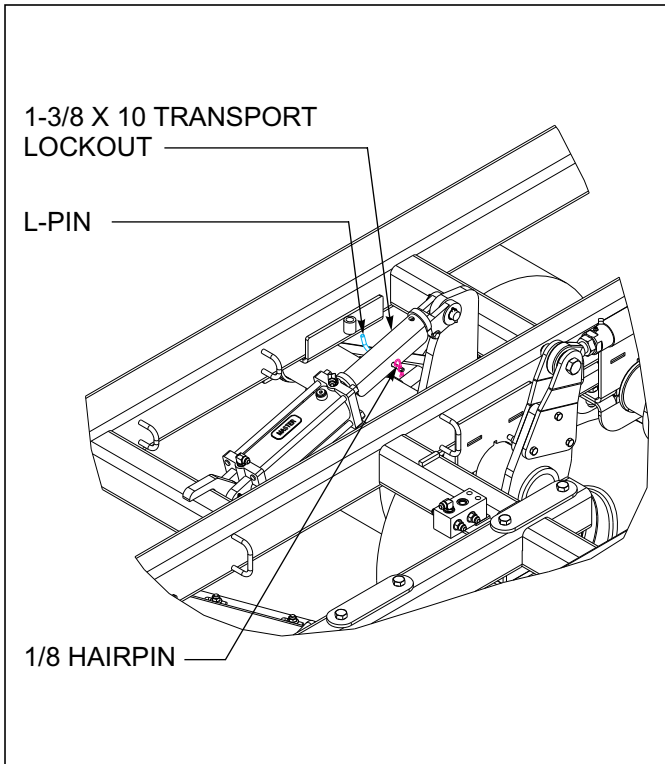

Figure 4-18: Installed Transport Locks
10. Install transport locks on lift systems. Do not depend solely on implement hydraulics for transport. (See **Figure 4-18.**)